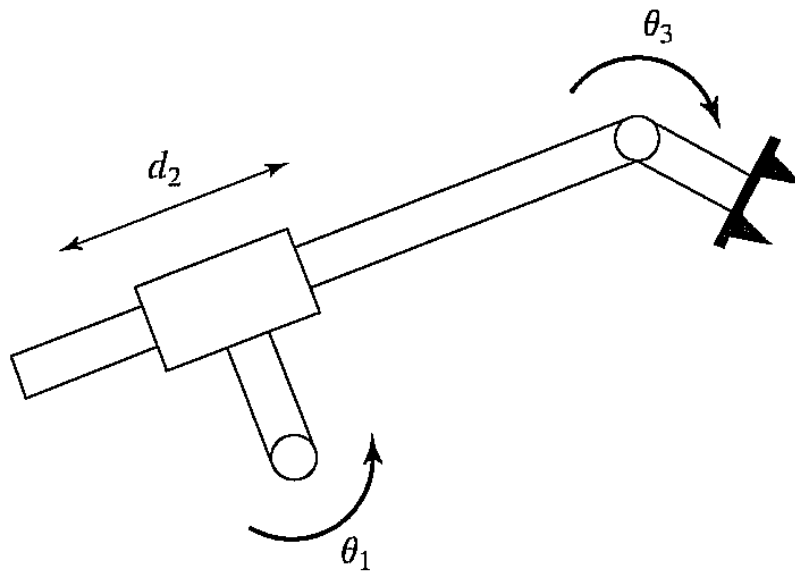

Figure 3: Q3
3. Assign link frames to the RPR planar robot shown in Fig. 3 , and give the linkage parameters